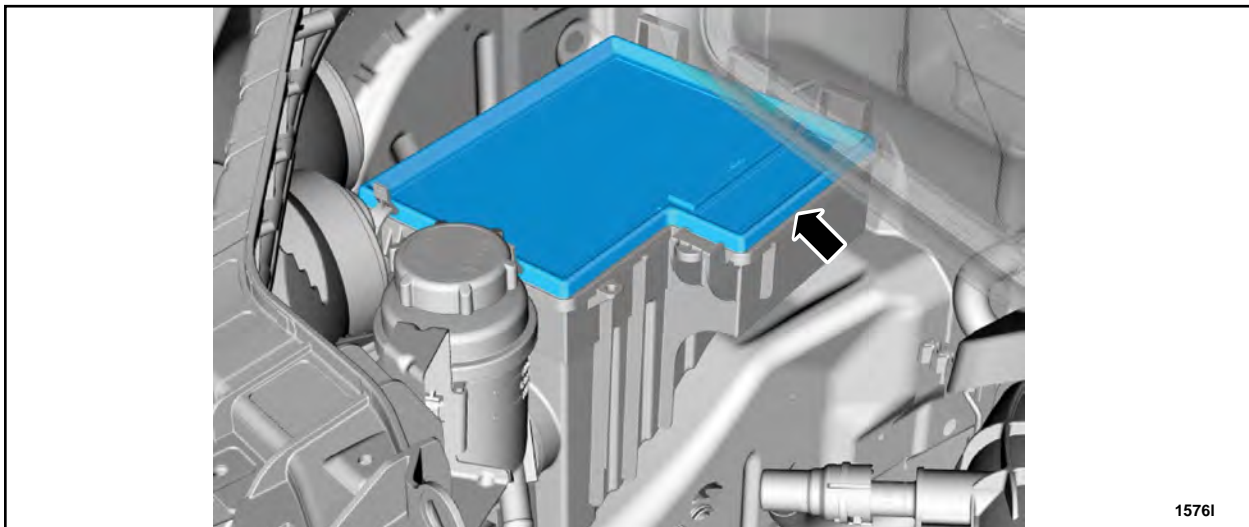

FIGURE 8
9. Remove the air filter. See Figure 8.